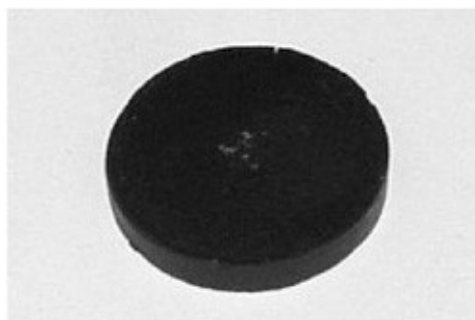

Figure 106-2 *YBa₂Cu₃O₇ ceramic disk.*
- superconductor disk consisting of $\text{YBa}_2\text{Cu}_3\text{O}_7$ ceramic (see Figure 106-2)